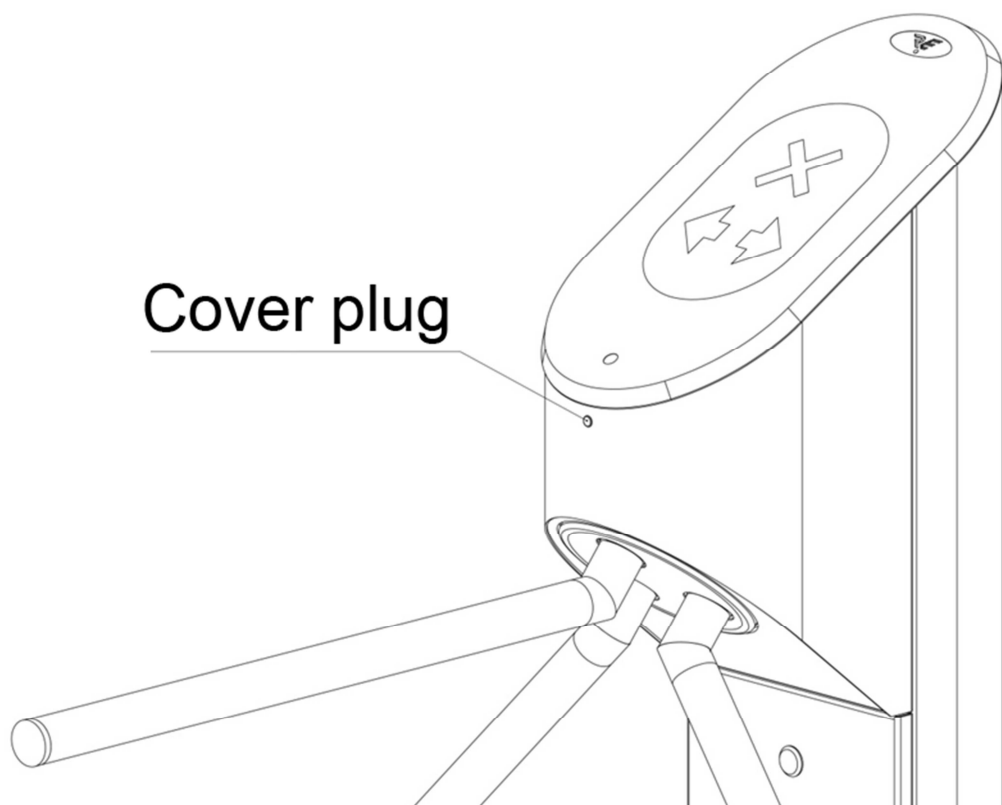

Fig. 2
- Remove the plastic cover plug from the hole (Fig. 2);